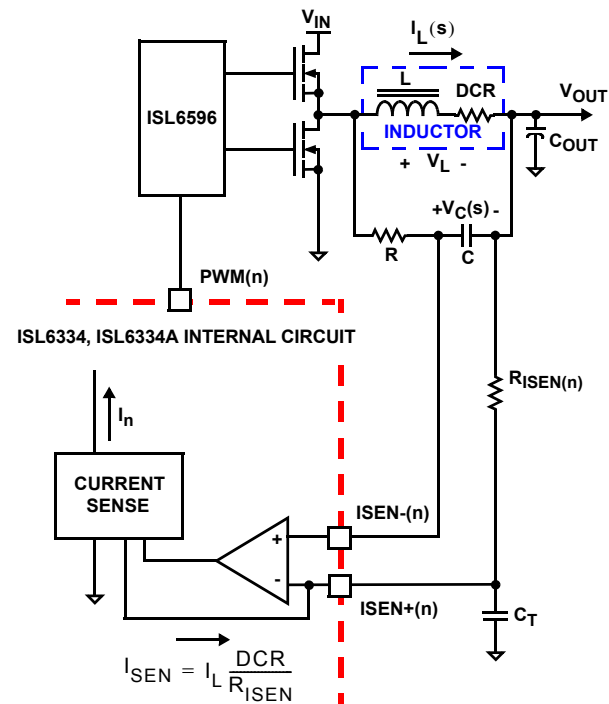

FIGURE 8. DCR SENSING CONFIGURATION
The internal circuitry, shown in Figures 8 and 9, represents one channel of an N-channel converter. This circuitry is repeated for
An inductor’s winding is characteristic of a distributed resistance, as measured by the DCR (Direct Current Resistance) parameter. Consider the inductor DCR as a separate lumped quantity, as shown in Figure 8. The channel current IL flowing through the inductor, will also pass through the DCR. Equation 4 shows the s-domain equivalent voltage across the inductor VL.
A simple R-C network across the inductor extracts the DCR voltage, as shown in Figure 8.
The current sense circuitry operates in a very similar manner for negative current feedback, where inductor current is flowing from the output of the regulator to the PHASE node, opposite of flow pictured in Figures 8 and 9. However, the range of proper operation with negative current sensing has a limitation. The worst-case peak-to-peak inductor ripple current should be kept less than 70% of the OCP trip point (internal mirrored current =  $\sim 70\mu\text{A}$ ). Care should be taken to avoid operation with negative current feedback exceeding this threshold, as this may lead to momentary loss of current balance between phases and disruption of normal circuit operation. Note that the negative current can especially affect coupled inductor designs, where the effective inductance is the leakage between the two channels, much lower than the specified mutual inductance (LM). To limit the impact, a higher  $R_{ISEN}$  value (1.5x to 2x) can be used to reduce the effective negative current seen by the controller in coupled inductor designs. Refer to Intersil's application note, AN1268 for a detailed coupled inductor discussion and ripple current calculation.